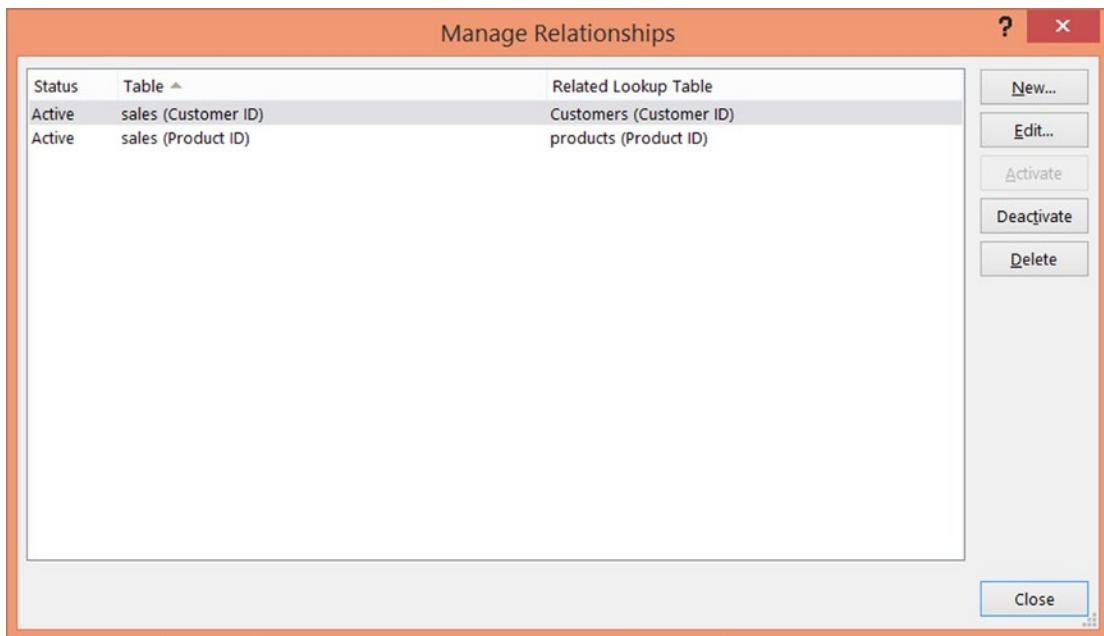

Figure 21-9. The relationships we've just created
- Because the dataset is fairly simple, those are all the relationships you have. At this stage, the Manage Relationships dialog box looks like Figure 21-9.